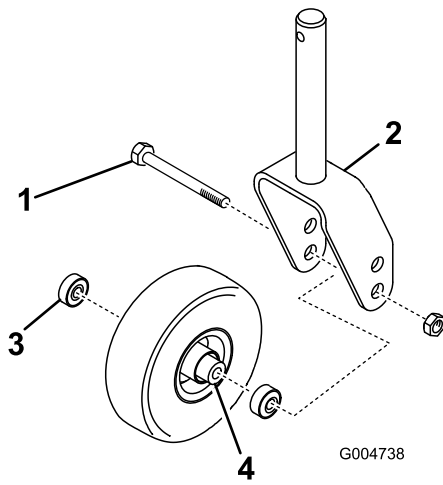
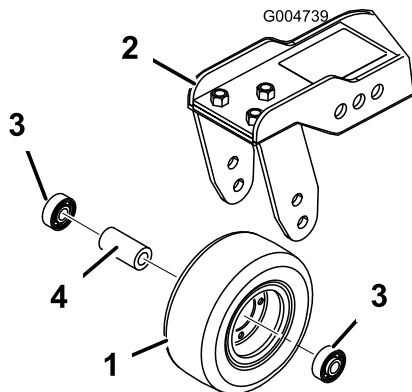

Figure 77
Figure 78
1. Remove the locknut from the bolt holding the castor wheel assembly between the castor fork (Figure 77) or the castor pivot arm (Figure 78). Grasp the castor wheel and slide the bolt out of the fork or pivot arm.
2. Remove the bearing from the wheel hub and allow the bearing spacer to fall out (Figure 77 and Figure 78). Remove the bearing from the opposite side of the wheel hub.